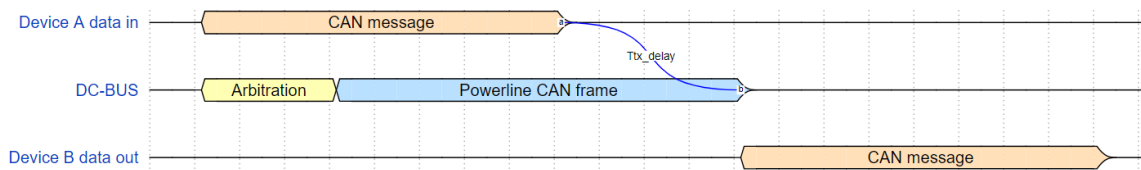

Figure 12 – Typical TX-RX CAN message flow
**Recommendation: The delay between two consecutive ECU CAN-Messages  $\geq 400\mu\text{s}$  (see Figure 12).**